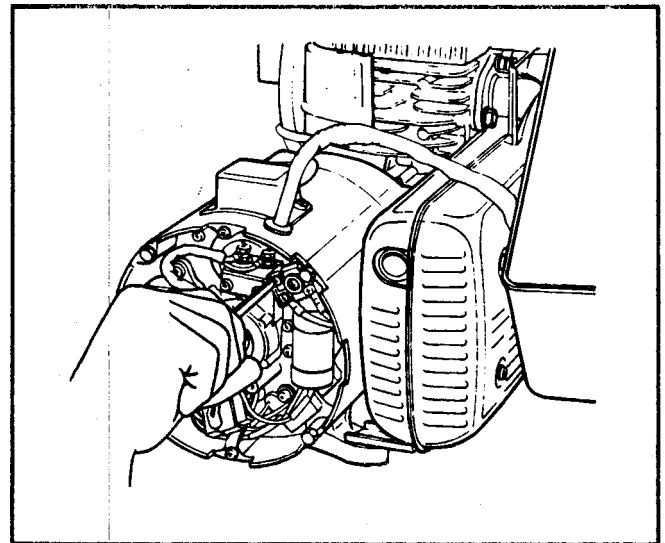

Figure 141
4. Disconnect and remove the **AC** output wires at the terminal block. See Figure 141.